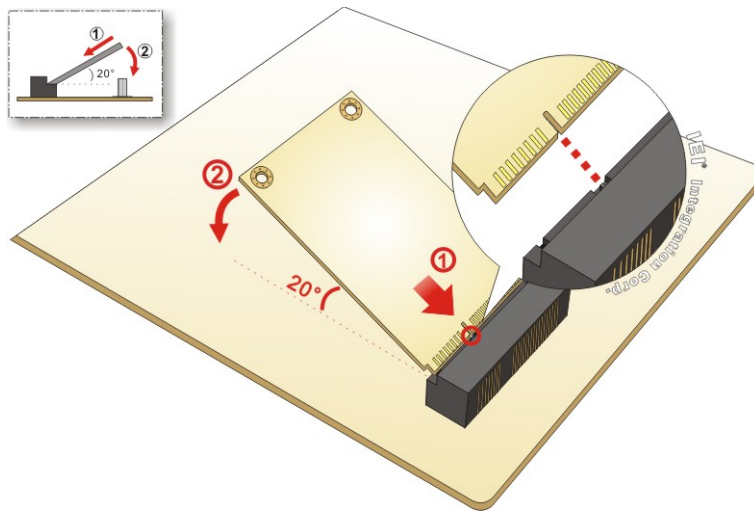

Figure 4-7: Inserting the Full-size PCIe Mini Card into the Slot at an Angle
Step 4: Insert into the socket at an angle. Line up the notch on the card with the notch on the slot. Slide the PCIe Mini card into the socket at an angle of about 20° (Figure 4-7).